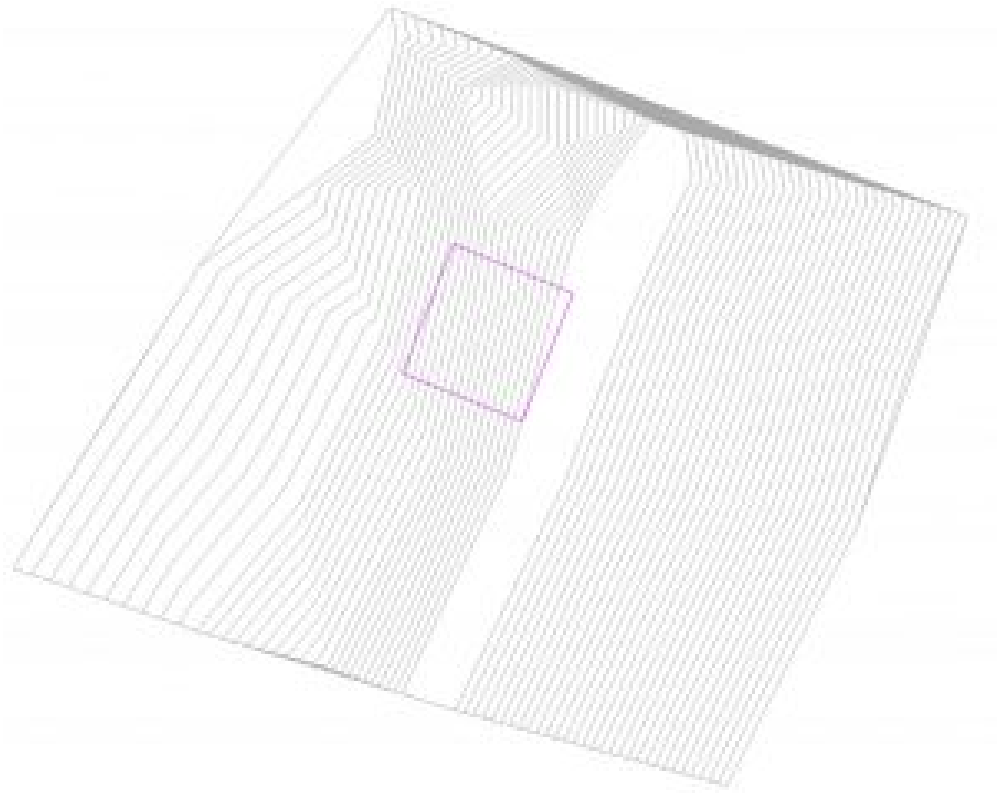

Figure 14.4 Building Pad drawn in the Site view
3. Use the Rectangle tool  to draw a shape between the 20 and 30-foot levels as shown in Figure 14.4